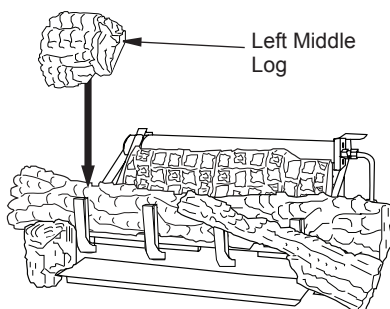

Figure 43 - Installing Left Middle Log
- The left middle log (18" D-066, 24" & 30" D-040) has a groove on the bottom to sit on the chassis and has to sit on the tab on the back of the left front log as shown in Figure 43.